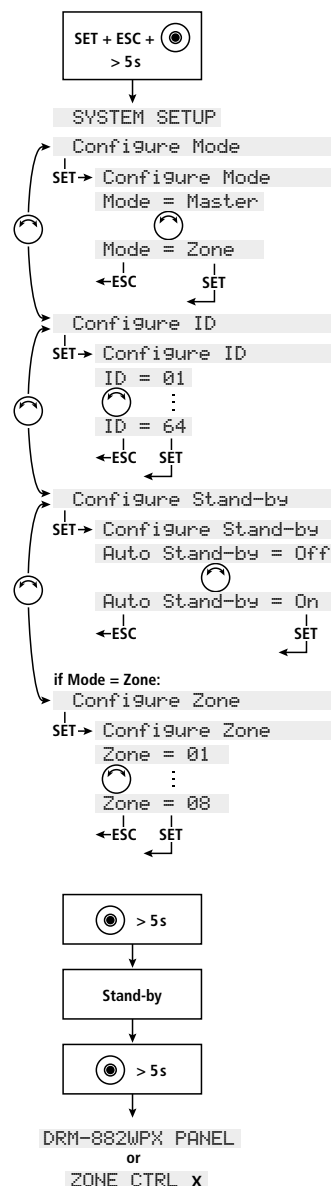

Fig. 8 System menu of DRM-882WPX
- 1) Keep the buttons SET (24), ESC (25) and the rotary knob (23) pressed for approx. 5 seconds. The menu SYSTEM SETUP is displayed.
- 2) Make the desired settings according to the menu structure shown in fig. 8.